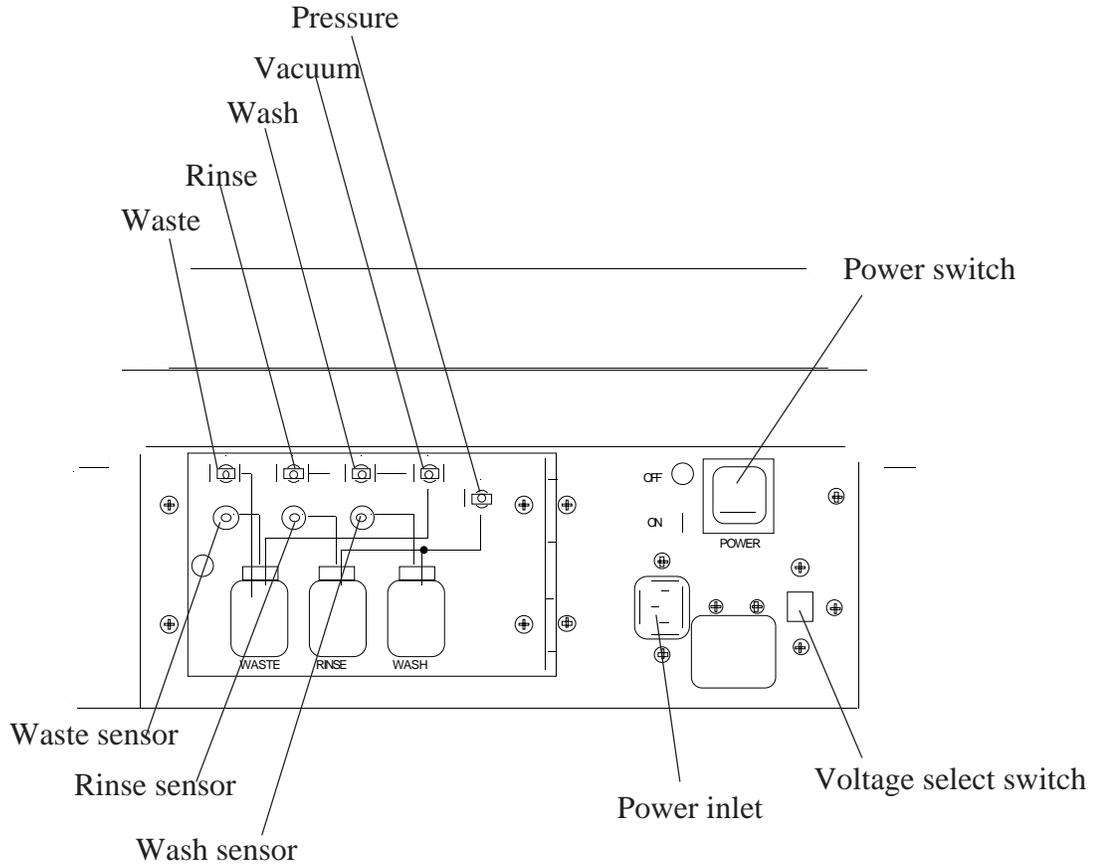
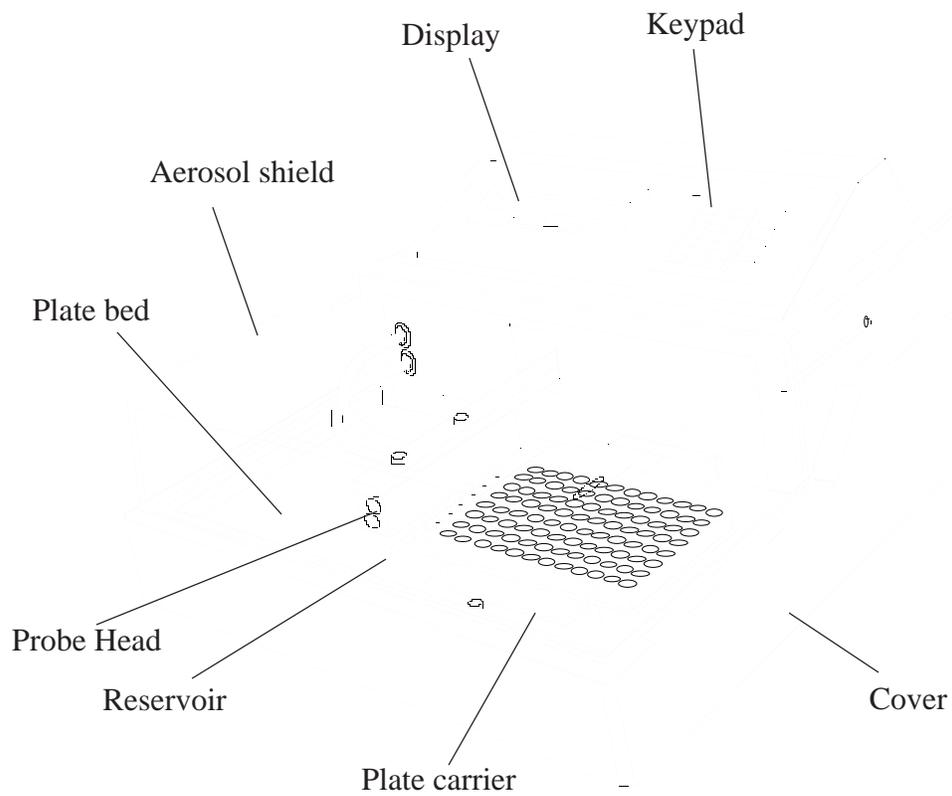

Figure 2. Rear panel connections
Figure 3. Parts and Controls
3. Refer to Figure 2, Rear Panel Connections, and Figure 3, Parts and Controls, for the remainder of this procedure. Place the bottles on the work surface behind the instrument. The order of the bottles, left to right, viewed from the front of the instrument, is WASH, RINSE, WASTE.
8. Locate the power switch on the rear panel. Check that the power switch is in the **Off (O)** position.
4. Install the plate carrier in the plate bed. Refer to Figure 3, Parts and Controls. Slide the two metal pins into the two slots at the back of the plate bed, and lower the plate carrier into the plate bed. Do not